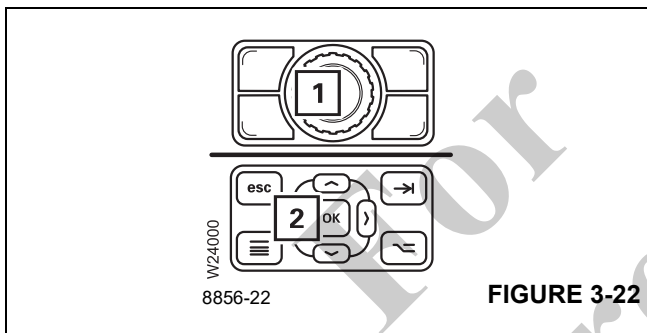
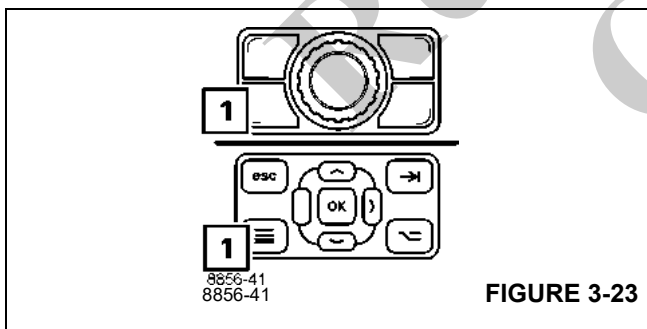

FIGURE 3-22
FIGURE 3-23
If the instruction given in this section is to “Press the button once...”, for instance, this always refers to the button (1), (Figure 3-22) or (2), (Figure 3-22). This is the case if a menu is opened or a function is to be carried out.
Buttons (1), (Figure 3-22) and (2), (Figure 3-22) denote that the active menu can change displays by either using the Jog Dial (1), (Figure 3-22) or by using the lower left Button on EITHER display (Figure 3-23).